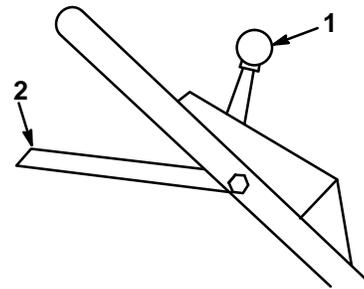
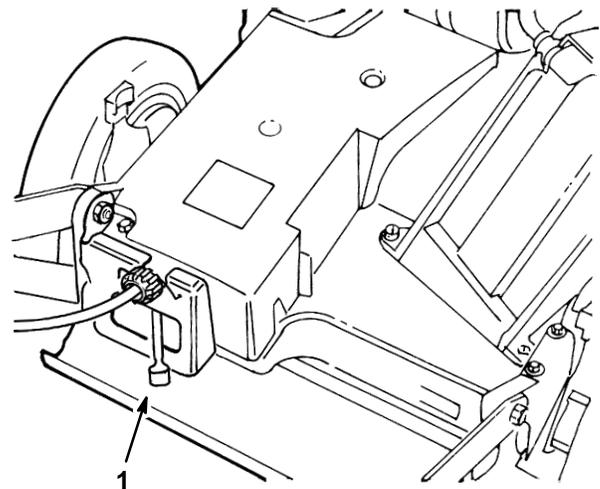

Figure 10
Figure 11
1. **CONTROLS**—Throttle control and blade/self-propelled control bar are on upper handle (Fig. 10). Ground speed control is located at rear of belt cover (Fig. 11).